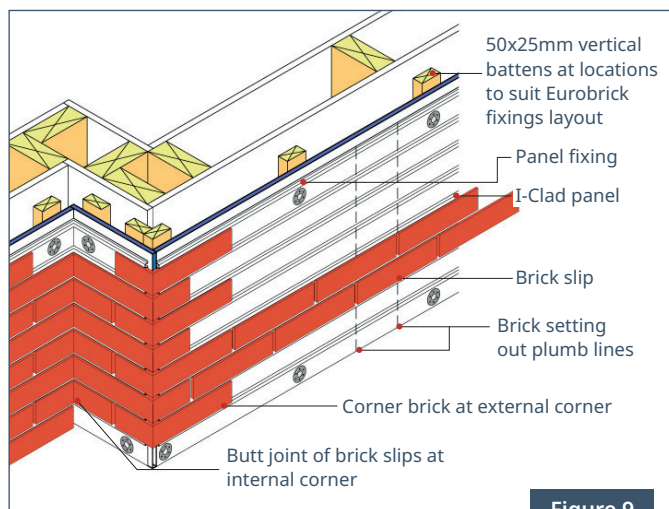

Figure 9
2. To determine brick spacing and setting out, apply a 10-12mm bead of adhesive to two courses on the panel and fix slips along two courses as far as the first natural break (door/corner/expansion joint). Try to space bricks with 10mm vertical joints, but so that the end of the run finishes with a whole or half brick. Joints can be opened or closed within a range of 7 or 8mm to 15mm to assist. Joints should be consistent in size. See Figure 9.